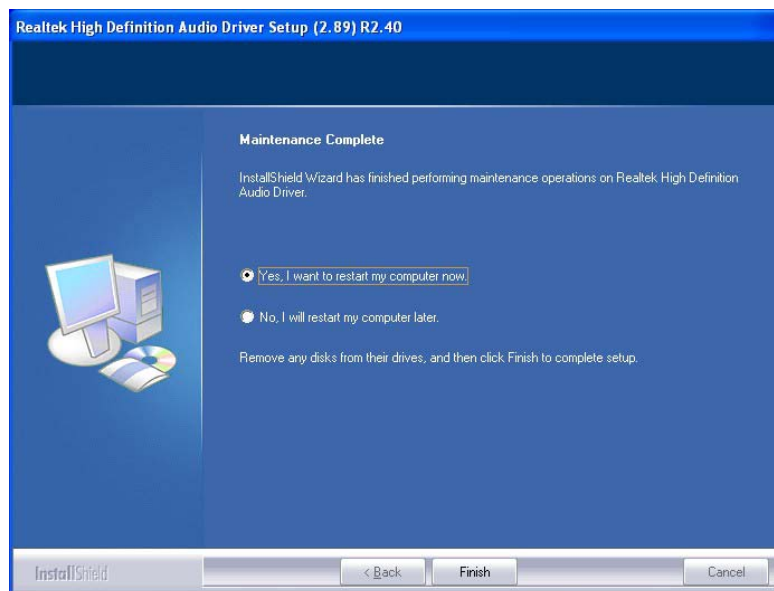

Figure 6-23: Audio Driver Installation Complete
Step 7: When the installation is complete, the screen in **Figure 6-23** appears.